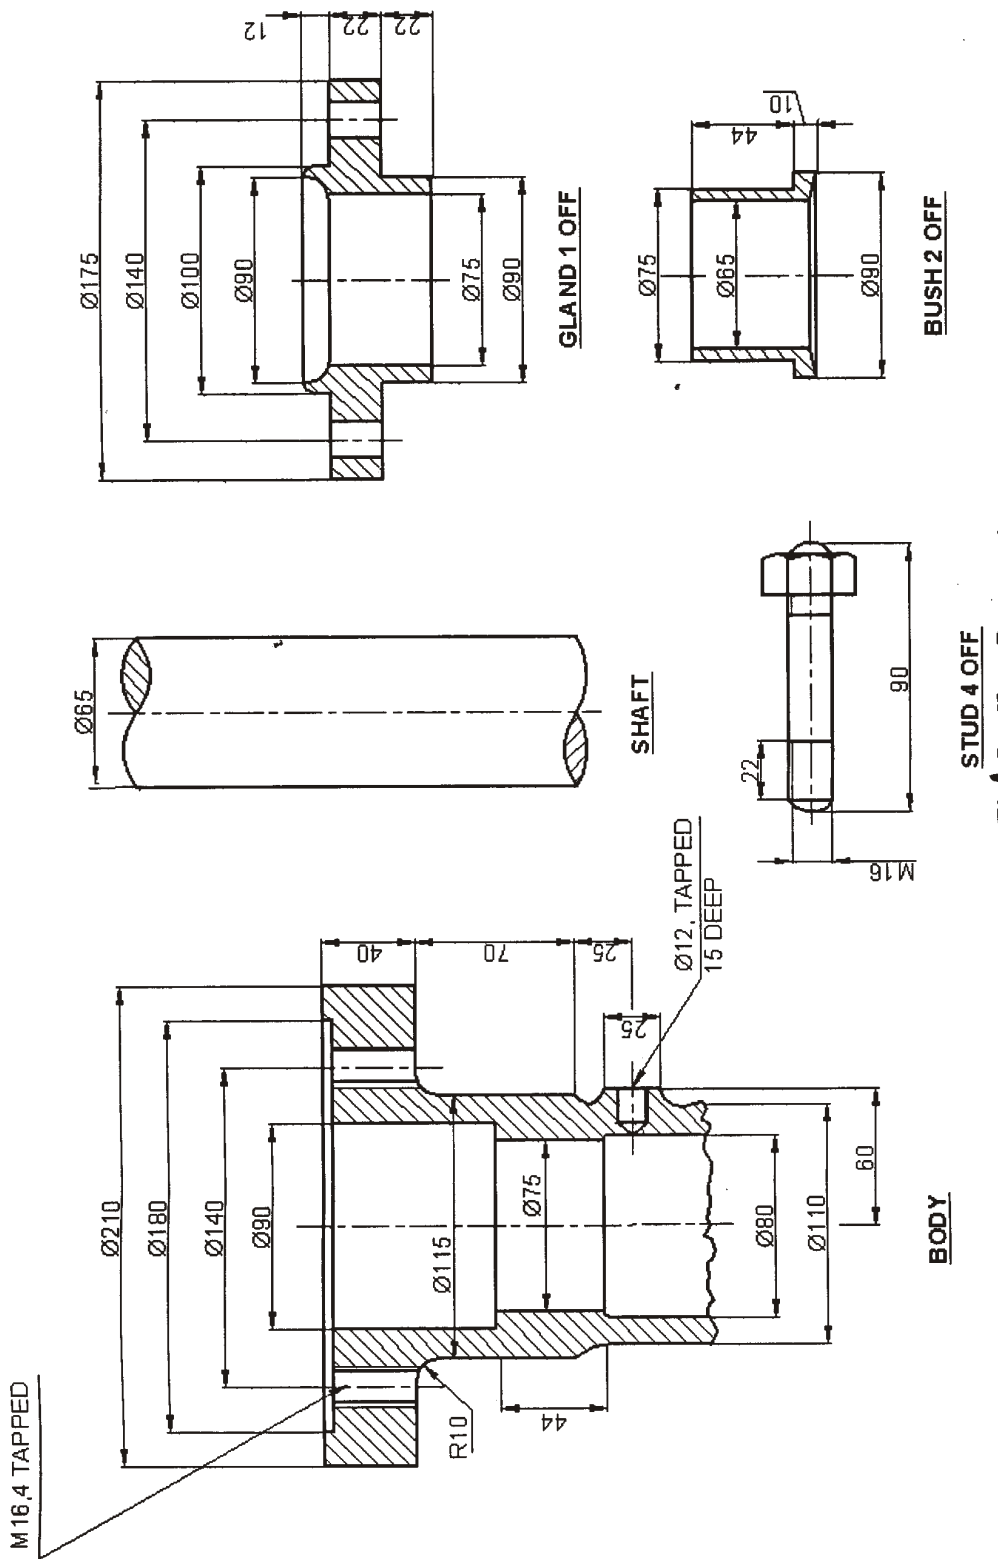

Fig. 1 : Stuffing box parts
(2) All dimensions are in mm.
(3) Assume suitable dimensions if not given in part drawings.
5. Fig. 1 shows details of a stuffing box 65 mm diameter shaft. Assemble all the parts and draw the following views of the assembly to full scale :